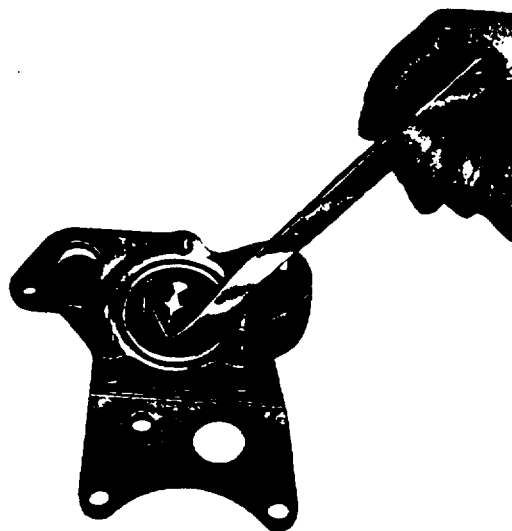

Fig. L.7.
3. The clearances are checked as shown in Figs. L.7., L.8 and L.9.